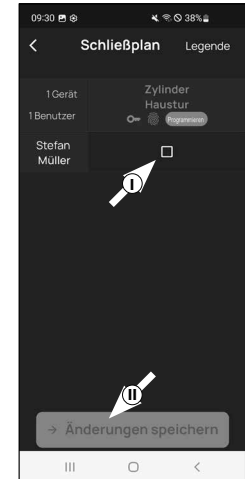

Fig. 2
- 4 A table is displayed consisting of the existing cylinders (horizontal) and the configured users (vertical) (Fig. 2). Select the checkbox where you wish to authorise the respective user to use the corresponding lock (I) (Fig. 2) and then click on the button „Save changes“ (II) (Fig. 2).